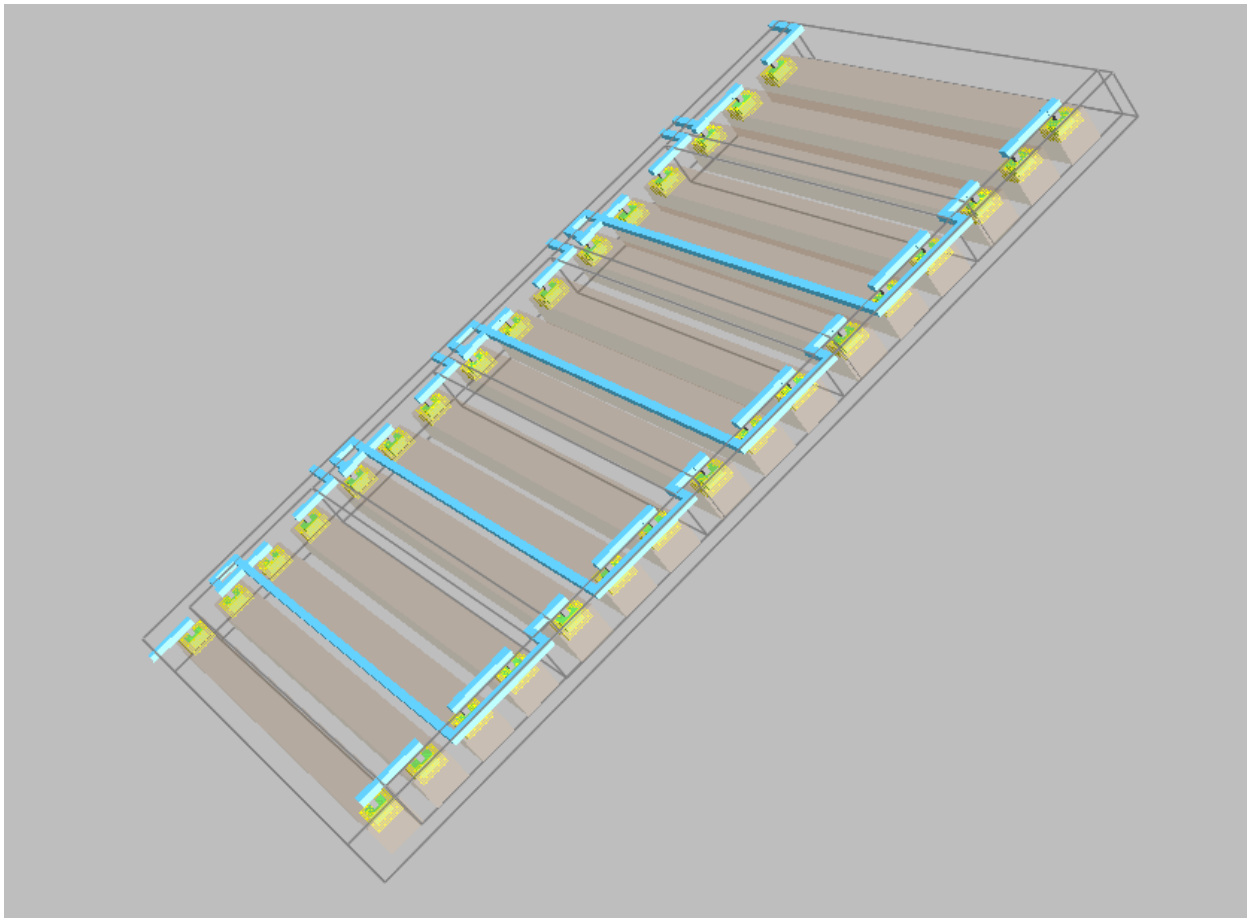

Figure 2.6: 3D Layout View of DAC
- Figure 2.6 is the 3D layout of the DAC.